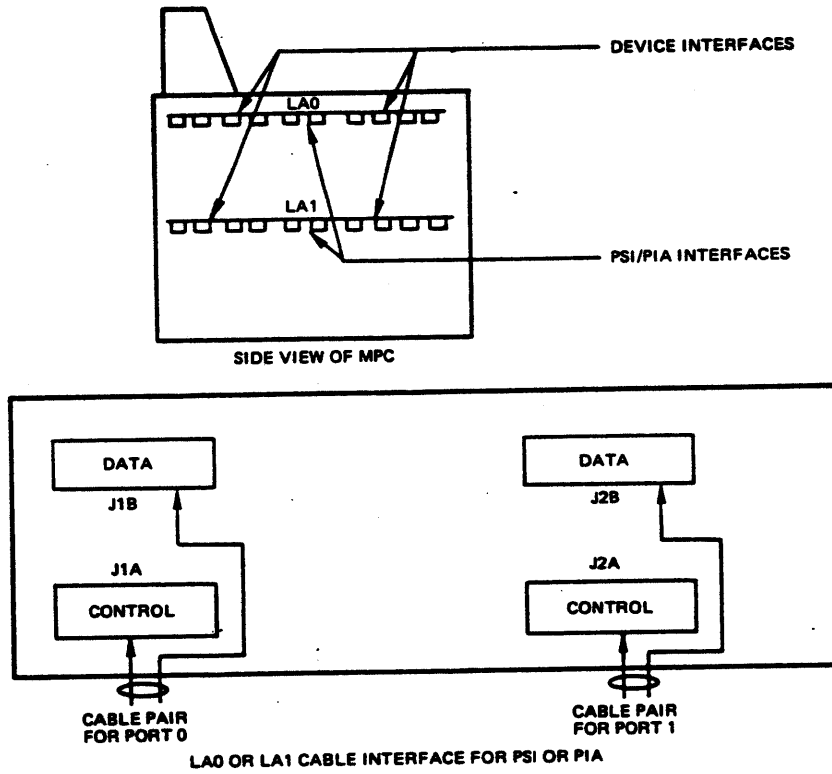

Figure 3-29 PIA/MPC Interface Panel
1. Run the two L66 MPC interface cables (43C240327) from the L66 MPC interface panel (see Figure 3-29) to the system cabinet. Pass the cables through the cutout at the bottom of the cabinet.
1. At the MPC, the PIA can be connected to one of four possible places (see Figure 3-29): LA0 port 0 or port 1 and LA1 port 0 or port 1, depending on the configuration. Each pair of plugs is labelled J1A and J1B, and J2A and J2B.